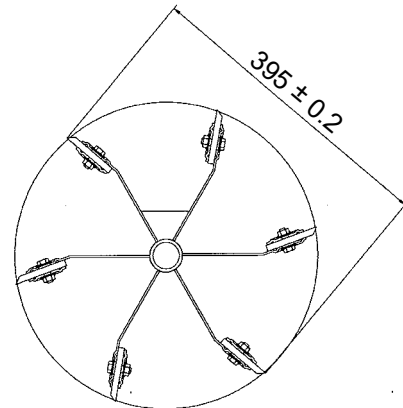

Fig. 9
3. The most accurate solution is obtained, if the blades are grinded into the right height and inclination after mounting on the rotor, see figure 9.